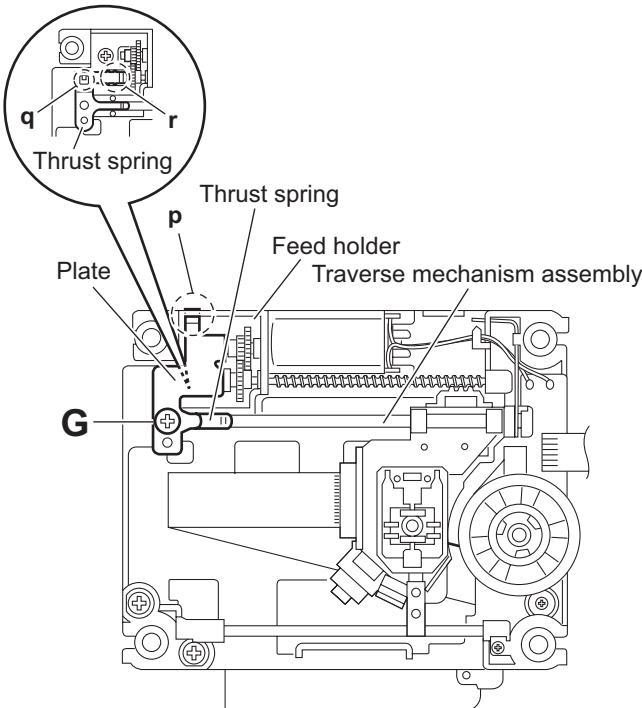

Fig.10
3.2.7 Removing the feed motor (See Figs.10 to 12)
- From the top side of the traverse mechanism assembly, remove the screw **G** attaching the plate and thrust spring. (See Fig.10.)
- Remove the engagement section **p** attaching the plate to the feed holder and remove the plate. (See Fig.10.)
- Remove the engagement sections (**q, r**), remove the thrust spring. (See Fig.10.)